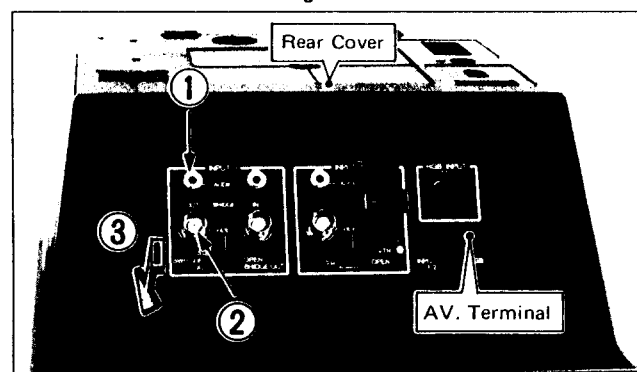

Fig. 7-3
3. Press in section (1) as shown in Fig. 7-3.